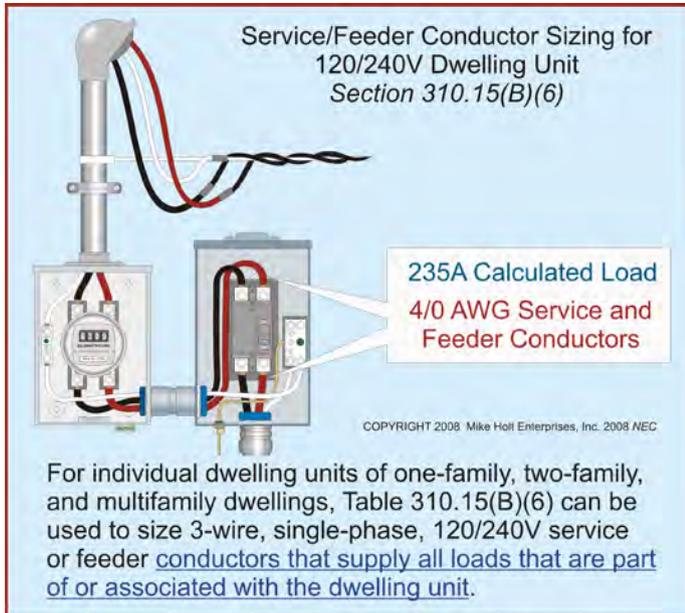

Figure 310–18
(5) Grounding Conductors. Grounding and bonding conductors aren't considered current carrying.
(6) Dwelling Unit Feeder/Service Conductors. For individual dwelling units of one-family, two-family, and multifamily dwellings, Table 310.15(B)(6) can be used to size 3-wire, single-phase, 120/240V service or feeder conductors that supply all loads that are part of, or associated with, the dwelling unit. **Figure 310–18**
Author's Comment: Table 310.15(B)(6) cannot be used for service conductors for two-family or multifamily buildings. **Figure 310–19**